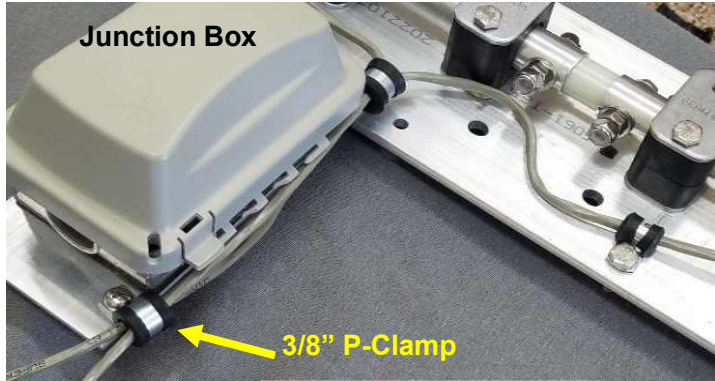

FIGURE 96
- (1) #10 washer (12003).
□ **STEP 9.7** Route both cut ends of CAT3 cables A and B through this 3/8" P-clamp and place a #10-24 x 1/2" screw through the P-clamp mounting bracket and the JBOX plate as shown in **FIG. 96**. Secure hardware with #10 washer and #10-24 lock nut.